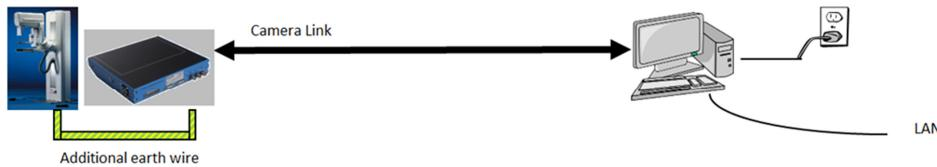

Figure 21: Detector earthed to medical equipment. The same applied to GigE.
- Additional protective earthing of the detector to the medical system (for both CL and GigE, Figure 21 below)